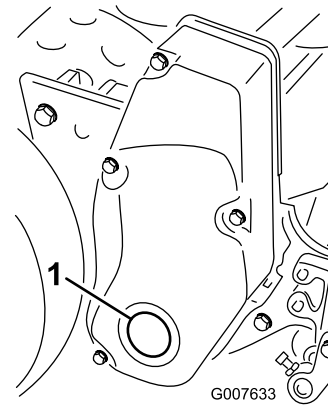

Figure 58
1. Remove the plug in the right reel-drive cover (Figure 58).